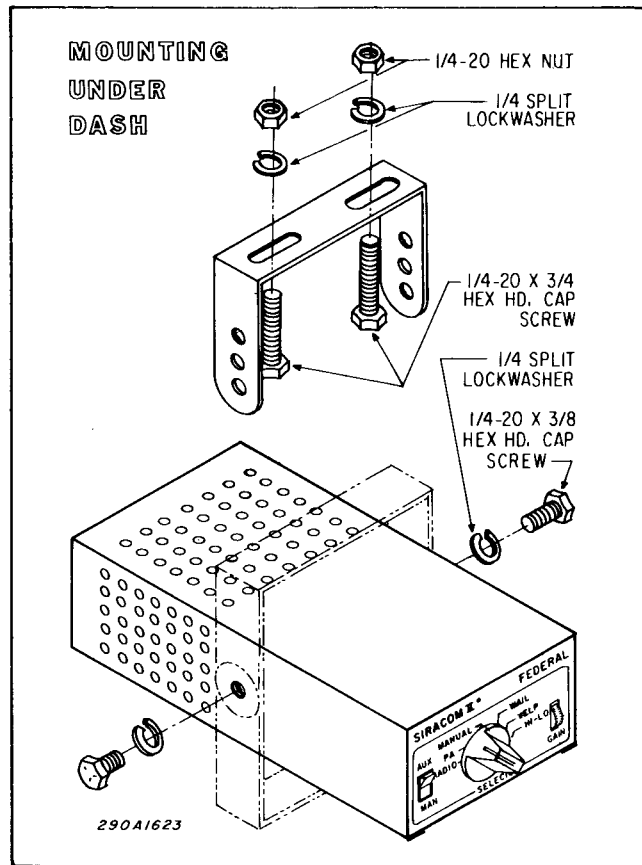

Figure 3-1 Installation of Siren under the dash
The siren is shipped with a swinging mounting bracket that makes it possible to mount the unit in a variety of positions. Positioning the bracket above the unit allows mounting on the underside of the dash. Positioning the bracket below the unit permits mounting on any horizontal surface or, in conjunction with Federal's TU70 Tunnel Mount, on the vehicle's transmission hump. Mount the siren in a location that is convenient and comfortable to the operator and where it will not interfere with the safe operation of the vehicle. Keep visibility and accessibility of controls in mind when choosing a mounting location. To install the bracket under the dash, determine the mounting location and proceed as follows (see figure 3-1).
C. Secure the mounting bracket to the dash using two each of the following: 1/4 - 20 x 3/4 hex head screws, 1/4" split lockwashers and 1/4 - 20 nuts, as shown in figure 3-1.